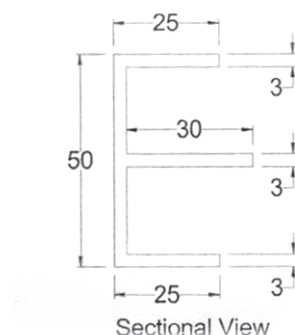

Fig 1 : Extruded Aluminum Section
- b) An Aluminum billet of 50mm diameter and 1m long is extruded to the final shape shown in Fig1. Calculate: [8]